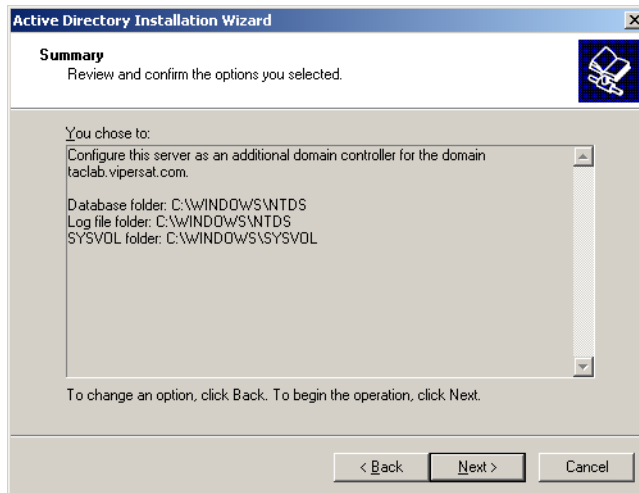

Figure D-37 Summary screen
20. Review the **Summary** screen shown in figure D-37, then click the **Next** button to proceed.